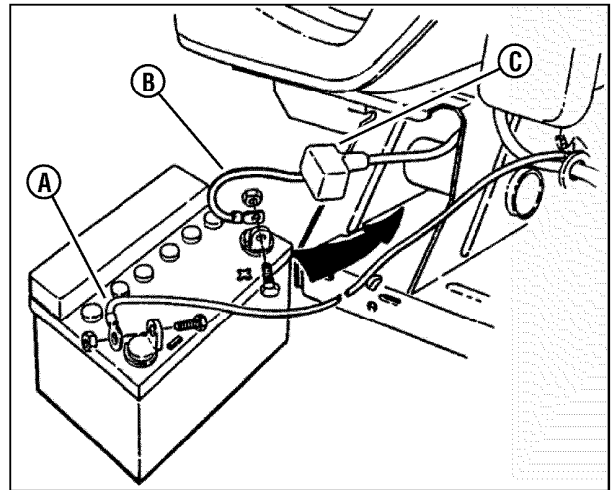

Figure 49: Connecting the battery
4. Observe and note the cable positions (**A and B**, **Figure 49**) on the battery.
2. Connect the red positive (+) cable (**B**, **Figure 49**) first, from the wiring harness to the positive terminal (+) on the battery, using the bolt and nut provided in the hardware bag. Connect the black negative (-) cable (**A**) last, to the negative terminal (-) on the battery, using the bolt and nut. Apply a small amount of grease over the terminals to prevent corrosion.
10. Connect the red positive (+) cable (**B, Figure 49**) first, from the wiring harness to the positive terminal (+) on the battery, using the bolt and nut provided in the hardware bag. Connect the black negative (-) cable (**A**) last, to the negative terminal (-) on the battery, using the bolt and nut. Apply a small amount of grease over the terminals to prevent corrosion.